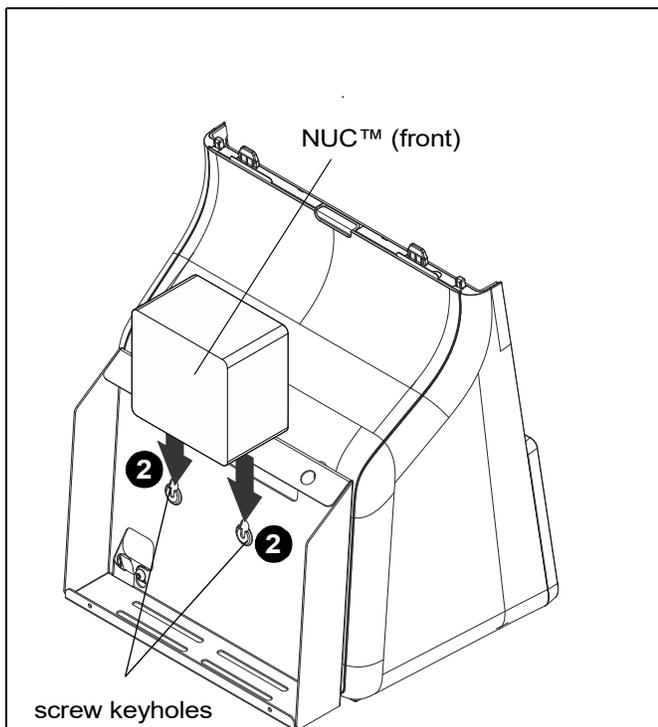

Figure 5
1. Install two NUC™ screws (not included) into back of NUC™ (not included). (See Figure 5)
2. Hang NUC™ screws into keyholes on back of kiosk bracket. (See Figure 5)